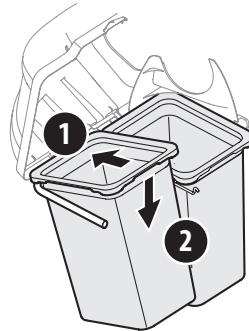

Figure 12
- Install both bag assemblies onto the bag support brackets by inserting the front edge in first, as seen in (1) of Figure 12, and setting the back edge down until it fits into the assembly (2).